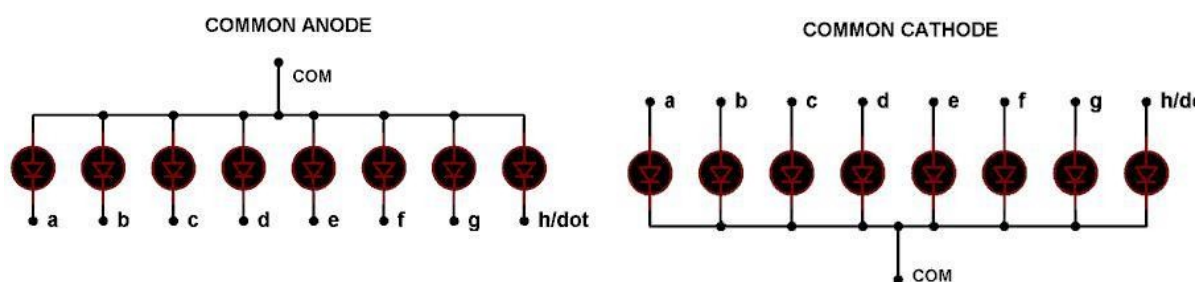
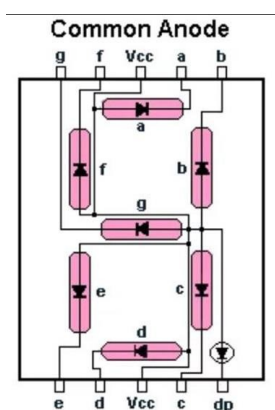

Figure 4.3 - Internal connection of seven segment display
Figure 4.4 - Pin-out of seven segment display.
A seven -segment display got its name from the very fact that it has got seven illuminating segments. Each of these segments has an LED (Light Emitting Diode), hence the lighting. The LEDs are so fabricated that lighting of each LED is contained to its own segment. The important thing to notice here is that the LEDs in any seven-segment display are arranged in Common Anode (CA) mode or Common Cathode (CC) mode (common negative). In CA, anodes (i.e., positive) are connected as one terminal whereas in CC all cathodes are connected as one terminal as shown in Figure 4.3.
The circuit connection of LEDs in common cathode and common anode is shown in Figure 4.3. Here one can observe that, in CC the negative terminals of every LED is connected and brought out as GND. In CA the positive of every LED is connected and brought out as VCC. These CC and CA come in very handy while multiplexing several cells together. Figure 4.4 shows internal arrangement of LEDs inside a common anode 7-segment.